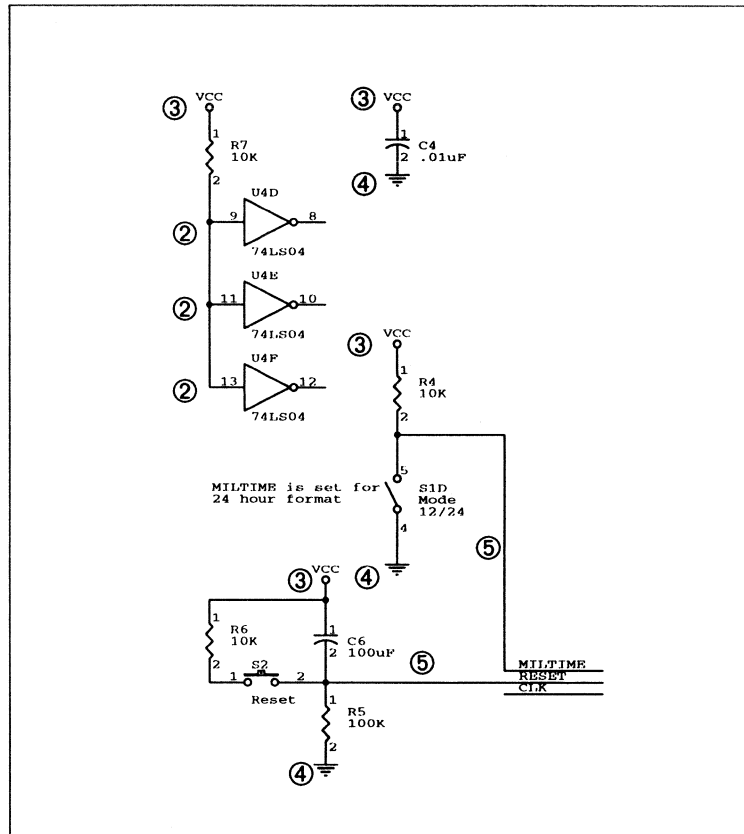

Figure 6-9. Inverters, power symbols, ground symbols, and wires to be placed. The callouts refer to the step numbers in this section.
There are also some leftover parts (from multiple-element parts) to be placed on the schematic. Figure 6-9 shows the leftover parts for this design.
2. Get the **74LS04** inverter from `.\DCLOCK.LIB` and place three copies at locations (1.00, 3.20); (1.00, 3.90); and (1.00, 4.60), as shown in figure 6-9.
5. Place wires to connect the remaining parts, as shown in figure 6-9. Be sure to connect the wires to the logic and display circuit at the two places shown in figure 6-9.